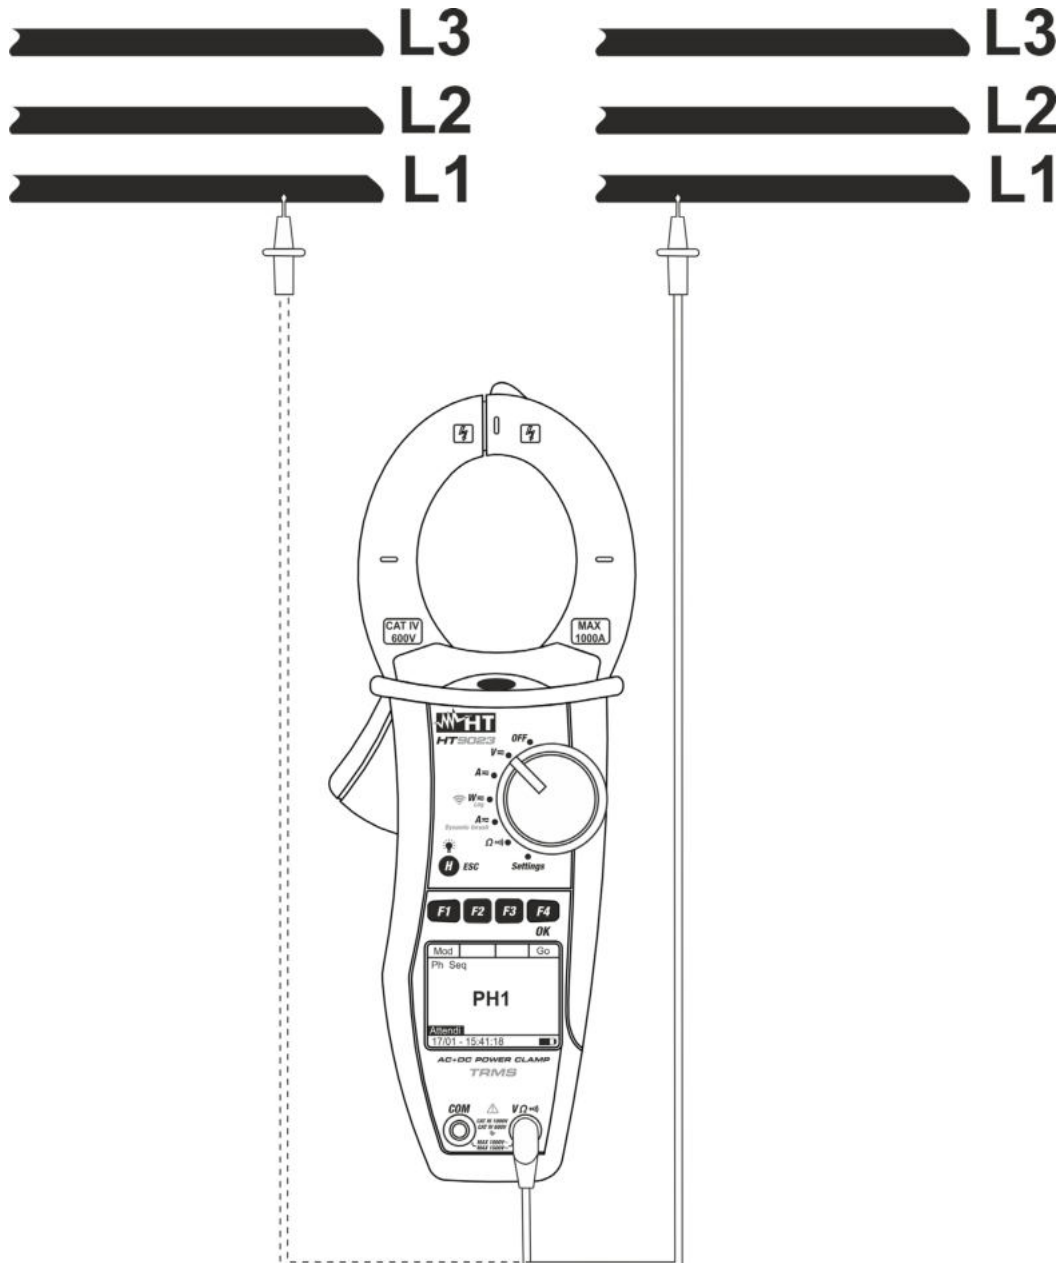

Fig. 8: Verification of phase conformity
2. Connect the red cable to the input lead  $V\Omega$  then position the lead **on the L1 phase of the first system** of the circuit under test (see Fig. 8)
5. The message “**PH2**” is displayed and the instrument waits for the detection of L1 phase of the second system. Connect the test lead to L1 phase of the second system (see Fig. 8)